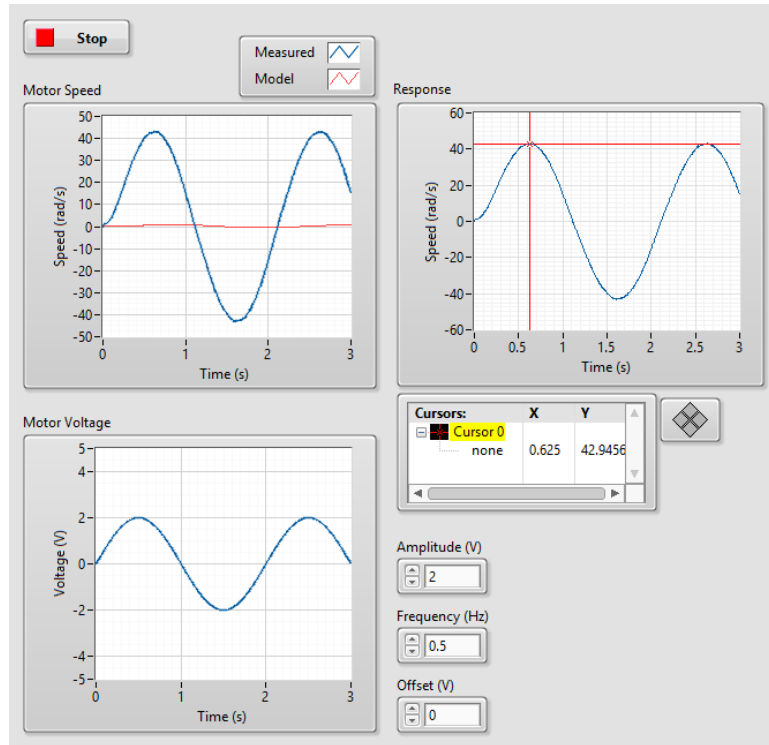

Figure 8: DC motor response to a 0.5 Hz sinusoidal input
8. Re-run the VI. Typical response is shown in Figure 8. Take a screenshot of your results and record the peak velocity in Table 2.